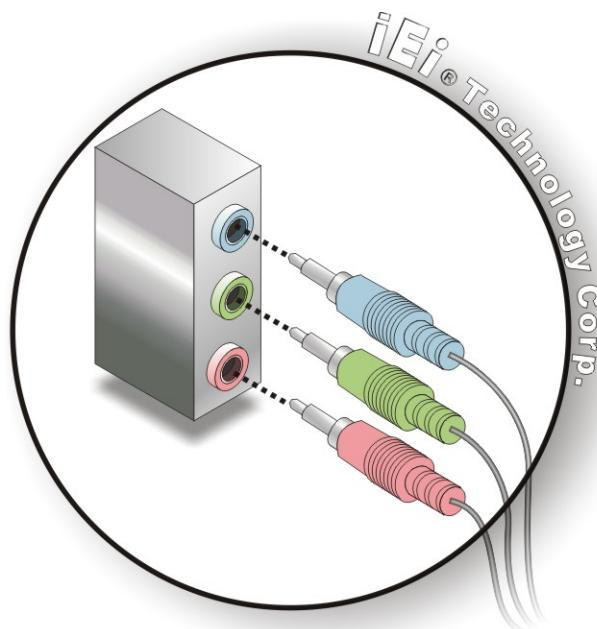

Figure 5-21: Audio Connectors
Step 2: Insert audio phone jack plugs. Insert audio phone jack plugs into the audio phone jacks on the external peripheral interface. See Figure 5-21.